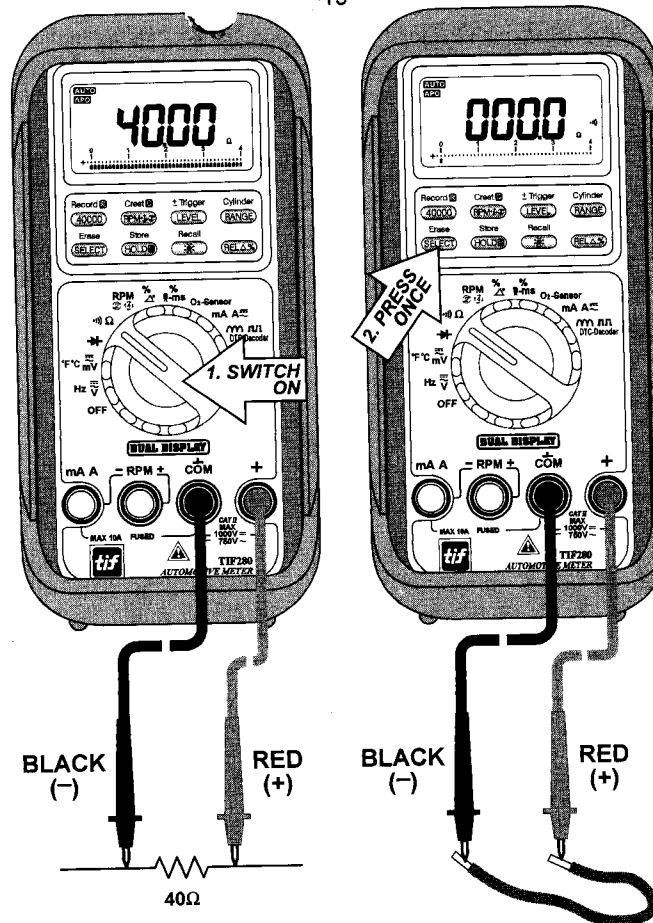

FIG 7. Ω RESISTANCE, \rightarrow) CONTINUITY FUNCTIONS
- 3) Connect the test leads as shown in **FIG 7** and observe the digital display